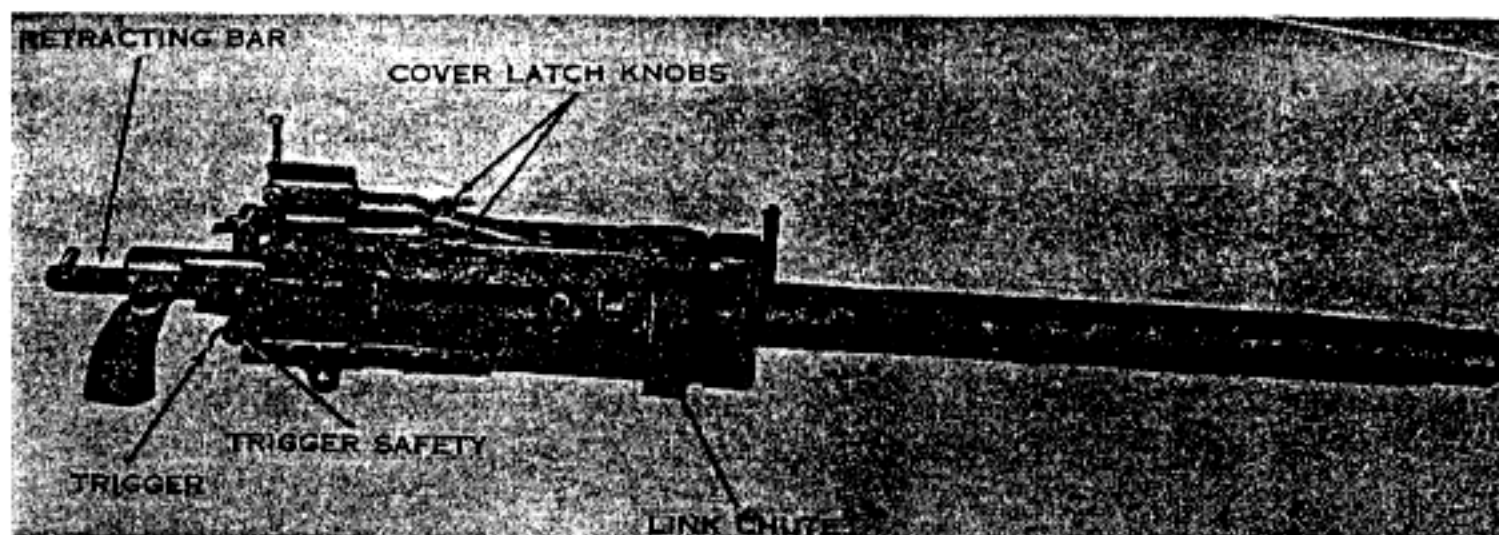

Figure 4. Caliber .30 machinegun M37 (tank).
a. *General.* The machinegun M37 (fig. 4) is a belt-fed, recoil-operated, air-cooled, automatic weapon. The gun is designed for fixed or flexible use. It is also designed for left- or right-hand feed. Ammunition is fed into the weapon by means of a disintegrating type metallic link belt. The M37 is primarily used as a coaxial machinegun; however, it may be used with the following mounts:
- (1) Weapon tripod mount, M74.
- (2) Machinegun tripod mount, M1917A1.
- (3) Caliber .30 machinegun tripod mount, M2.